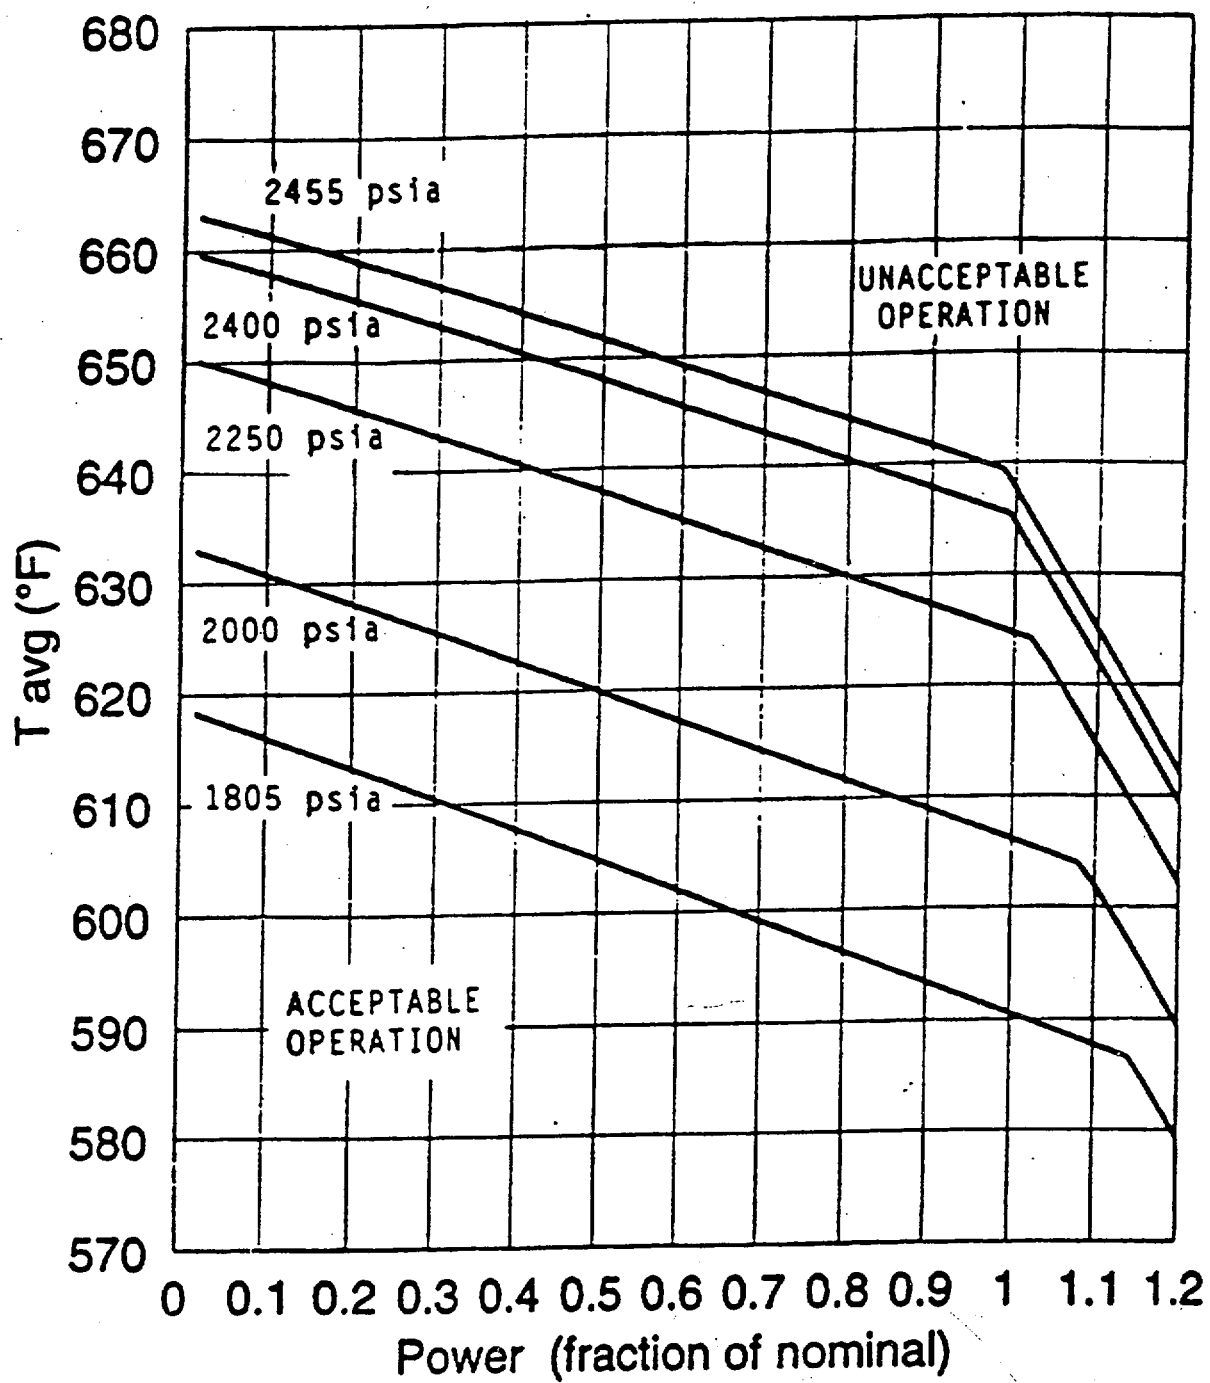

Figure 2.1-1 Reactor Core Safety Limit - Three Loops in Operation
- I. Technical Specifications Figure 2.1-1, Reactor Core Safety Limit – Three Loops in Operation